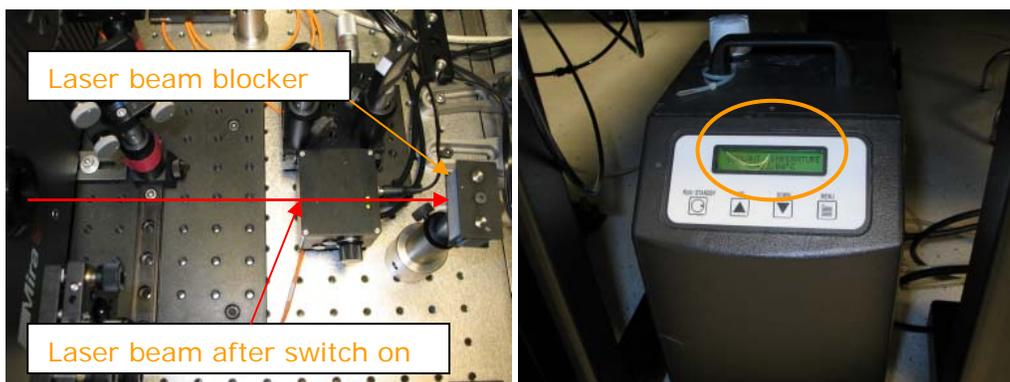

Figure 4: Laser output beam blocker in default position (left); water chiller (right) in normal operation mode (22-23 degC)
- 5.3.1. Make sure that the output of the Ti:Sa laser is blocked with a beam blocker (Figure 4, left).
- 5.3.2. Check the status of the water chiller (Figure 4, right): The chiller should be in normal mode (NOT in STANDBY), showing NO ERRORS, and the coolant temperature should be 18 C.
- 11.2. Place the laser beam blocker back in its default position in front of the Ti:Sapphire (Figure 4, left).